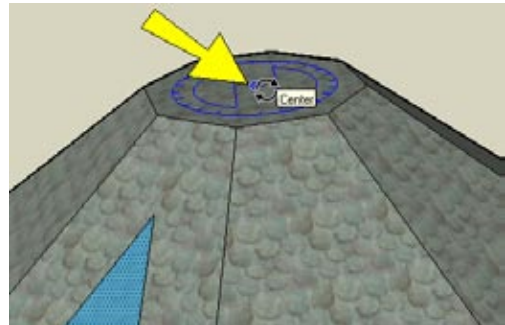

Figure 1-43
5. Having found the circumference of the octagon, SketchUp can now find its center point. Move the cursor to the center and click the center point, as shown in Figure 1-43.